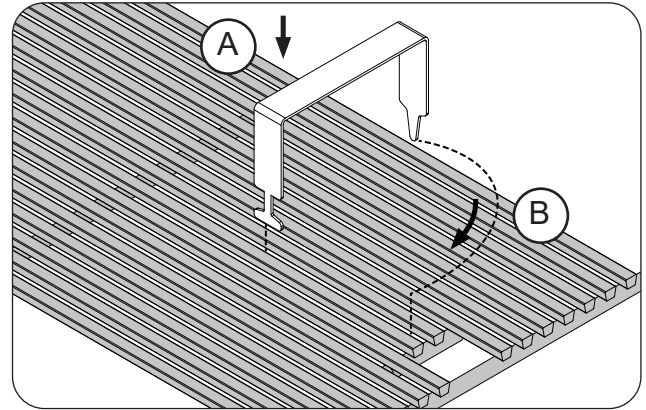
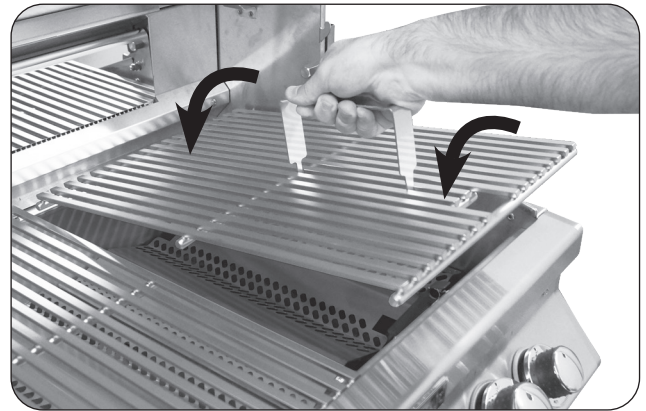

Fig. 24-1 Install cooking grids
Fig. 24-2 Install cooking grids
1. With the prongs facing downward, insert the notched-end of the lifter between two grid rods, then rotate, as shown in Fig. 24-1, A & B.
2. Insert the rear pointed-end of the lifter between the same two rods (Fig. 24-1, B) and carefully lift the cooking grid and place onto the front and rear grid rests of the grill (see Fig. 24-2). Repeat for all other cooking grids.